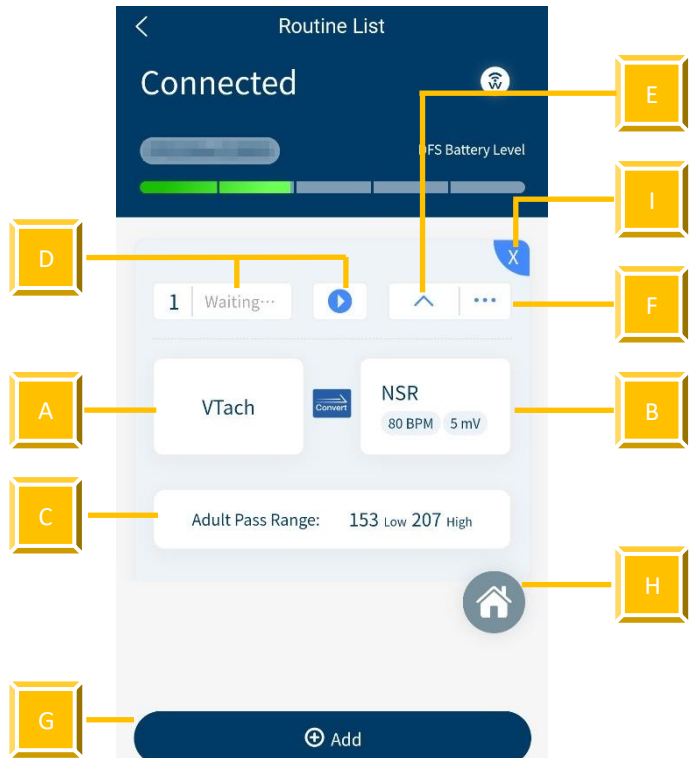

Figure 9: Routine List Interface
1. Click the Routine List on the home screen and click the Add button, Figure 9 will show on the screen.